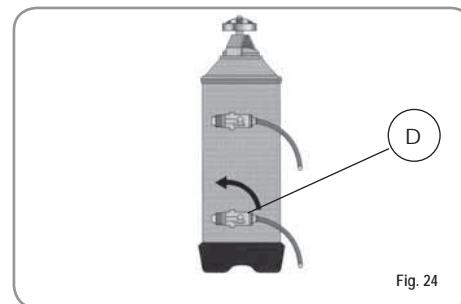

Fig. 24
3) Reposition lever D towards the left (Fig. 24).